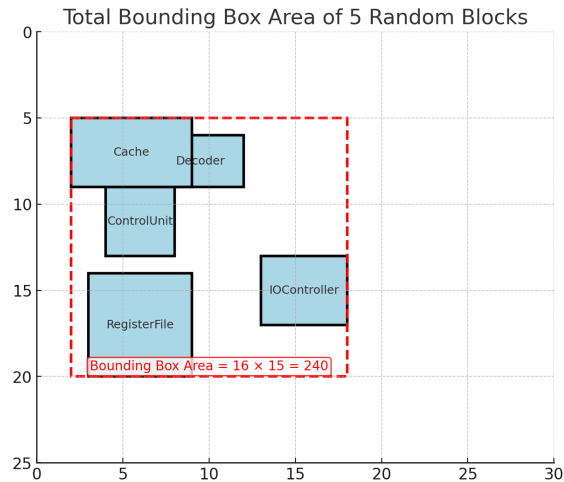
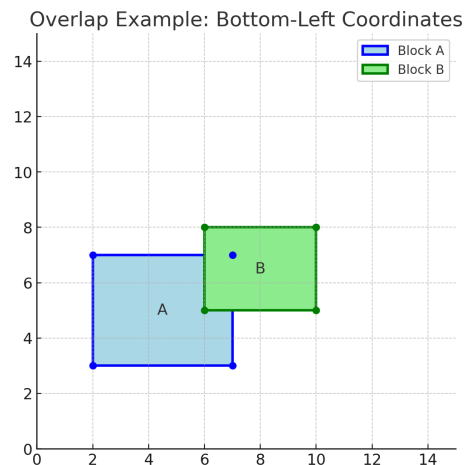

Figure 2
Figure 3
2. **Minimizing the total bounding area:** Figure 2 above hints at how the total bounding area can be calculated for a random placement of 5 component blocks. The red dashed rectangle is the bounding box- aka the smallest rectangle that contains all of the blocks inside. Given the bottom left coordinates (x,y) for all block components, you can easily find out the minimum and maximum of all x and y values, which will help you to calculate the area of such a bounding box $[(x_{\text{max}} - x_{\text{min}}) * (y_{\text{max}} - y_{\text{min}})]$. The **smaller** the bounding box area is, the **better** the layout is.
3. **Minimizing total component overlaps:** In Figure 2, there exists an overlap between the two components (cache and decoder). A single block can, in fact, be overlapped with multiple other blocks in a random placement. **Overlaps are not desirable.** Hence, a heavy penalty will be applied for each overlapping block pair. For any two block pairs A and B (Figure 3), one possible way to figure out the overlap is by checking the following condition: